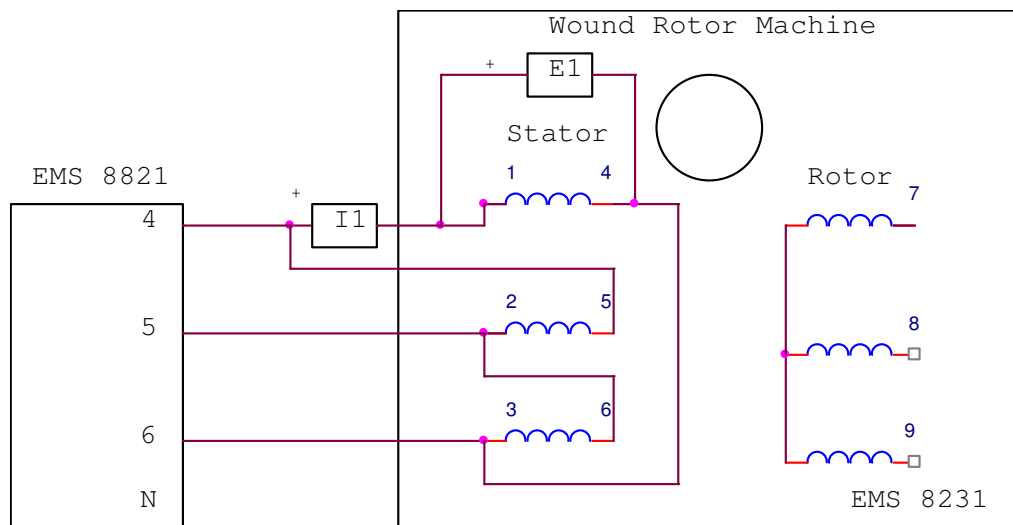

Figure 1: Part One Induction Motor Line Voltage vs. Line Current
6. Construct the Induction Motor circuit of Figure 1. Note that the stator windings are connected in a 3 phase delta configuration, and that the rotor windings are **not** connected.